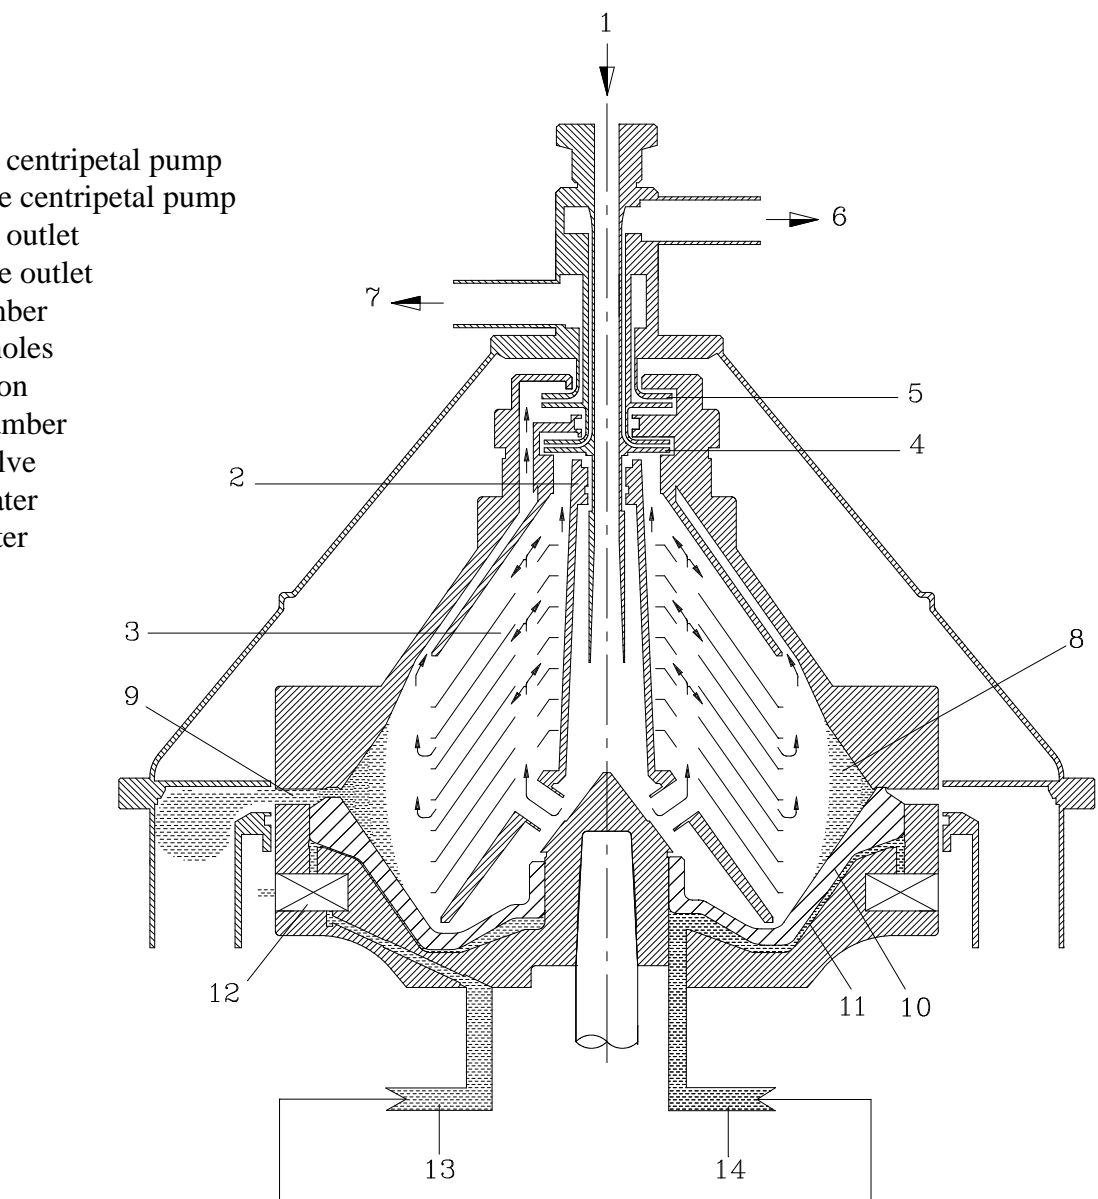

Figure 3.1
The product flows (fig. 3.1) into the bowl through feed pipe (1) and into the distributor (2) it undergoes acceleration until it reaches the bowl rotating speed. The distributor (2) conveys the product to the disks stack (3) where the separation between light and heavy phase takes place. Light clarified phase flows to the centre of the bowl and heavy phase flows to the bowl outer diameter. They rise in the disks stack and reach the two upper chambers of the bowl. Here two fixed centripetal pumps (4) and (5) convey them under pressure to the outlet pipe lines (6) and (7).